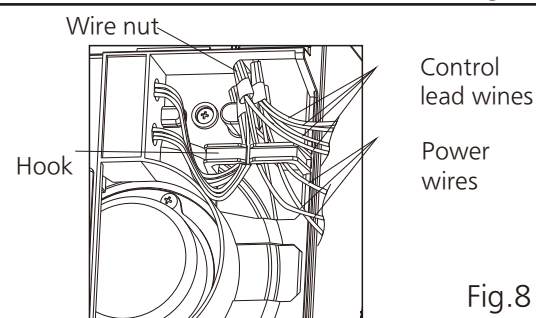

Fig.8
- ④ For future inspection by qualified persons, put the lead wires into the hook after connection work.(Fig.8)
- ⑤ Fix the cord cover with the screws that taken off at step1.